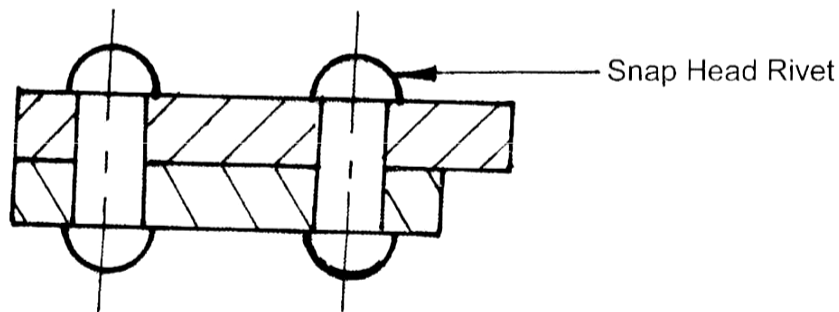

Figure 4
Figure 4 shows two (2) mild steel pieces assembled by means of snap head rivets.
- (i) If the two (2) pieces are to be dismantled, explain how you would remove the heads of the snap head rivets. [2]